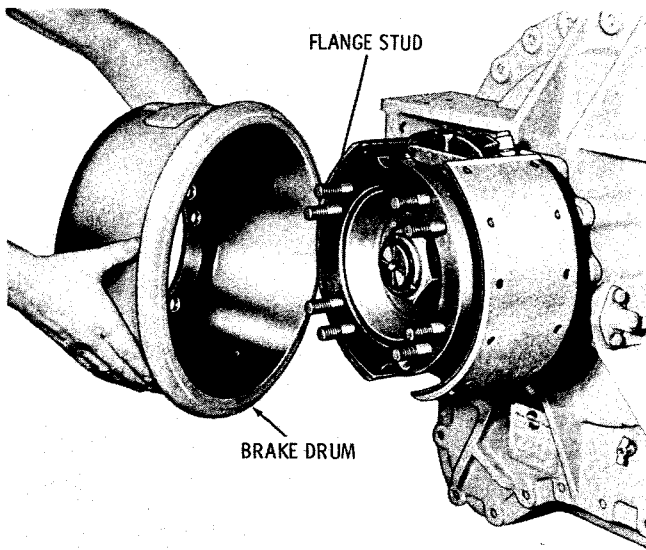

Fig. 5-52. Removing parking brake drum
(2) Remove the parking brake drum from the output flange studs (fig. 5-52). Some transmissions have the brake drum bolted to the output flange. Remove eight bolts and lockwashers; then the drum.